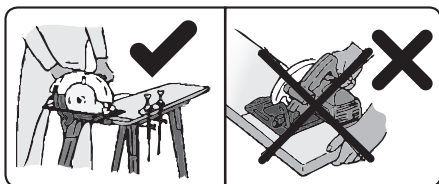

Fig. 4
1. Secure the material that is to be cut before cutting it using an appropriate clamping mechanism, e.g. using clamps to a workbench (see fig. 4). Never hold the material being cut in your hand or leaning against your knee.